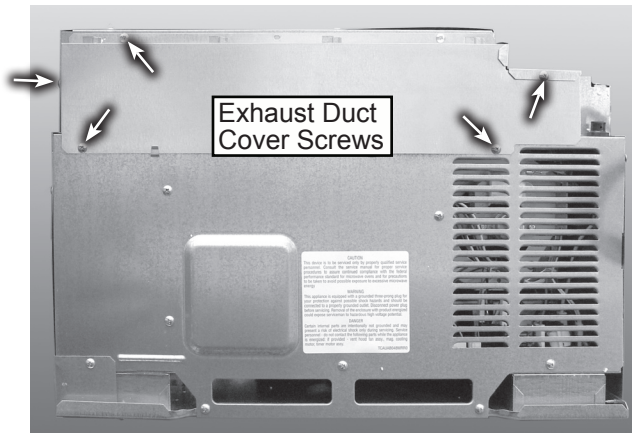

Figure 5
7. Remove exhaust duct and back cover (see figures 5 & 6).